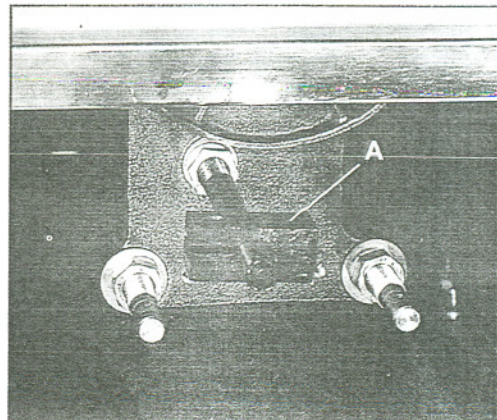

Fig. 12
2. Slide locating block (A, Fig. 12) onto splitter rod.